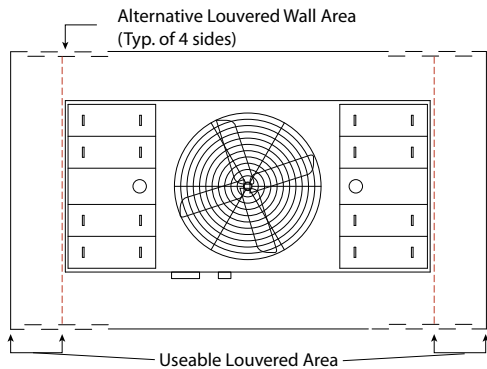

Figure 10. Plan View of Dual Air Intake Unit with Alternate Louver Arrangement
- b. If the available space does not permit the unit to be arranged with the air intakes facing the louvered or slotted walls and the enclosure cannot be modified to permit such an arrangement, consider the alternative illustrated in **Figures 10 and 11** on the following page. This arrangement should be restricted to one-cell or two-cell installations. The usable area of the louvers is only the length extending beyond the width of the unit.
- f. If the unit is elevated to ensure the discharge is at the same level or above the top of the enclosure, it is acceptable to extend the louvered or slot area below the base of the units up to 2' if needed to achieve the minimum gross louver area. To calculate air velocity through the louver, the usable louvered or slot area may extend beyond the ends of the unit by a value $1/2$ the unit length (L), with 6' maximum on either side. the unit by a value $1/2$ the unit length (L), with 6' maximum on either side. air velocity through the louver, the usable louvered or slot area may extend beyond the ends of the unit by a value $1/2$ the unit length (L), with 6' maximum on either side.